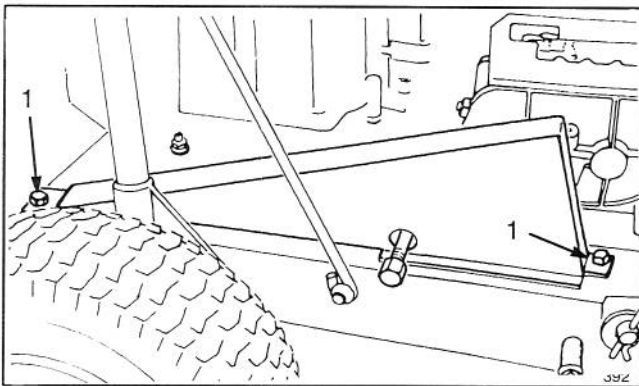

Figure 20
1. Remove two screws securing chain cover to rider chassis and lift off chain cover (Fig. 20).